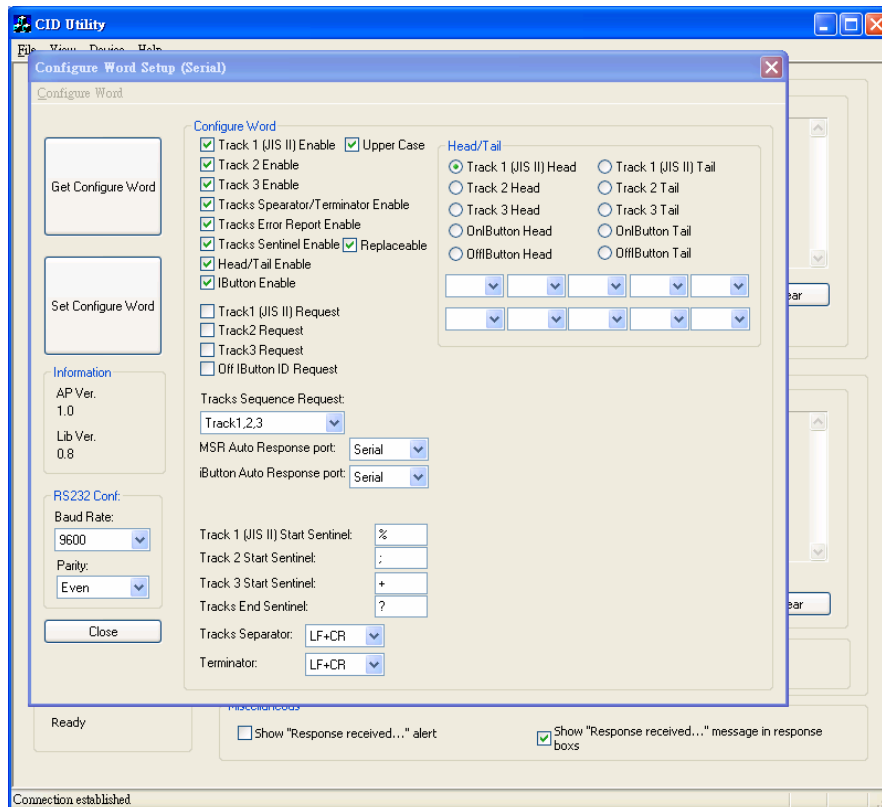
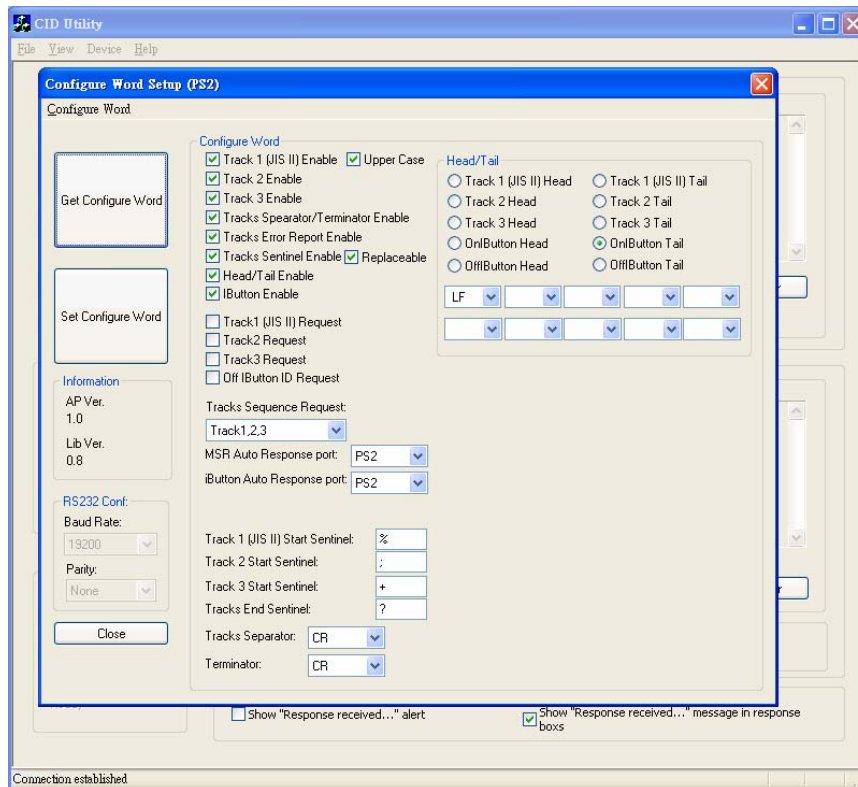

Fig 8
Fig9
4.6 Fig 8 and Fig 9 is a sample of RS232 and PS2 setting.